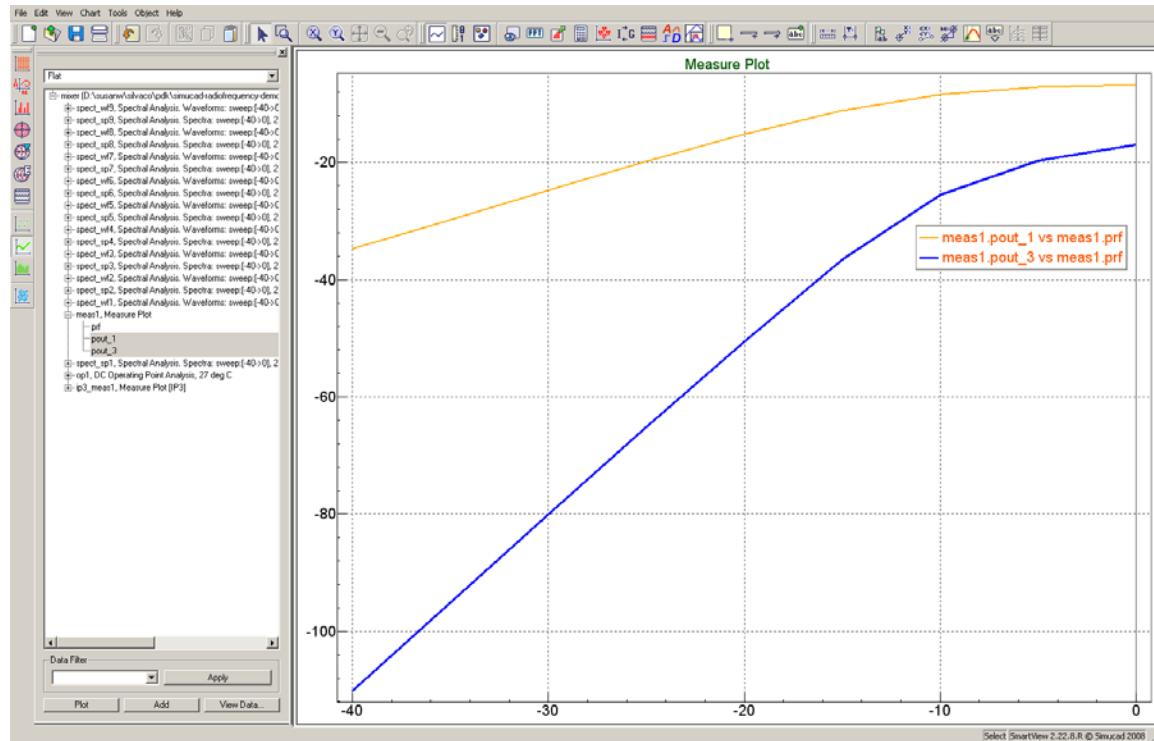

Figure 14: IP3 Simulation Plot
2.12.1: Open plot `meas1`, then select both vectors “`pout_1`” and “`pout_3`”, and click **Plot**. The IP3 simulation plot is shown in Figure 14.